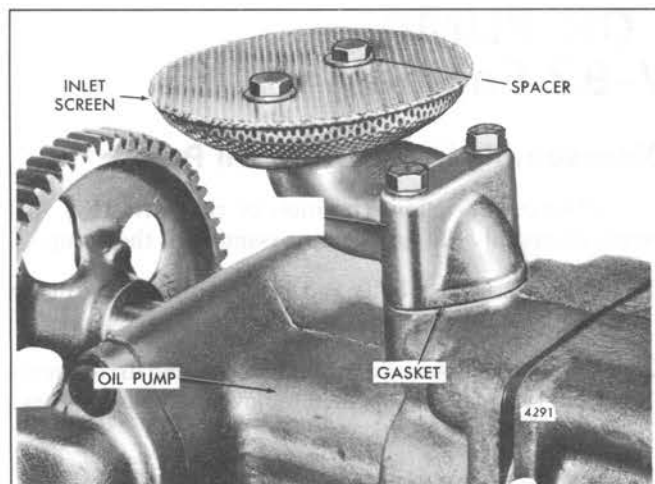

Fig. 8 - Inlet Pipe and Screen Mounting
5. Use a new gasket and position the oil pump inlet pipe on the oil pump body. Secure the inlet pipe with two bolts and lock washers. Place the screen on the inlet pipe and fasten it with two self-locking bolts and two spacers (Fig. 8).